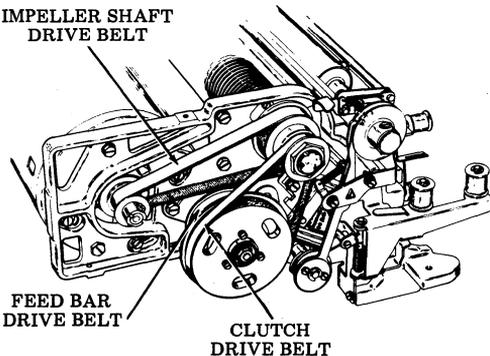

Fig. 33
5.07 Check impeller shaft drive belt for missing teeth (Fig. 33). Replace if necessary. If belt is replaced, perform the IMPELLER SHAFT DRIVE BELT TENSION adjustment.
5.08 Check feed bar drive belt for missing teeth (Fig. 33). Replace if necessary. If belt is replaced, perform FEED BAR DRIVE BELT TENSION adjustment.
5.09 Check clutch drive belt for missing teeth (Fig. 33). Replace if necessary. If belt is replaced, perform CLUTCH DRIVE BELT TENSION adjustment.